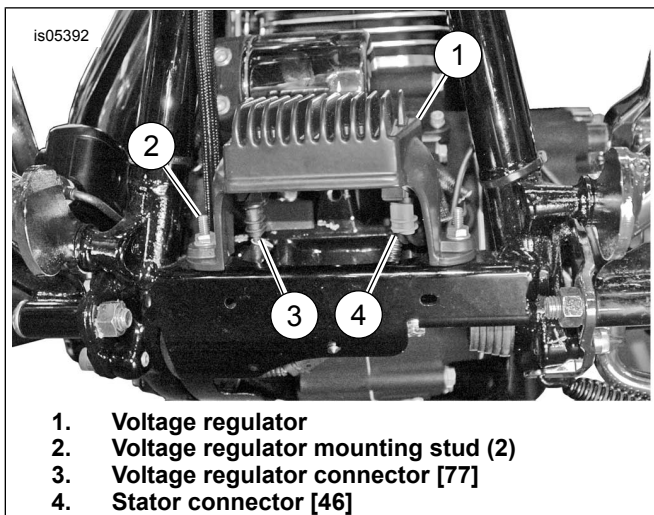
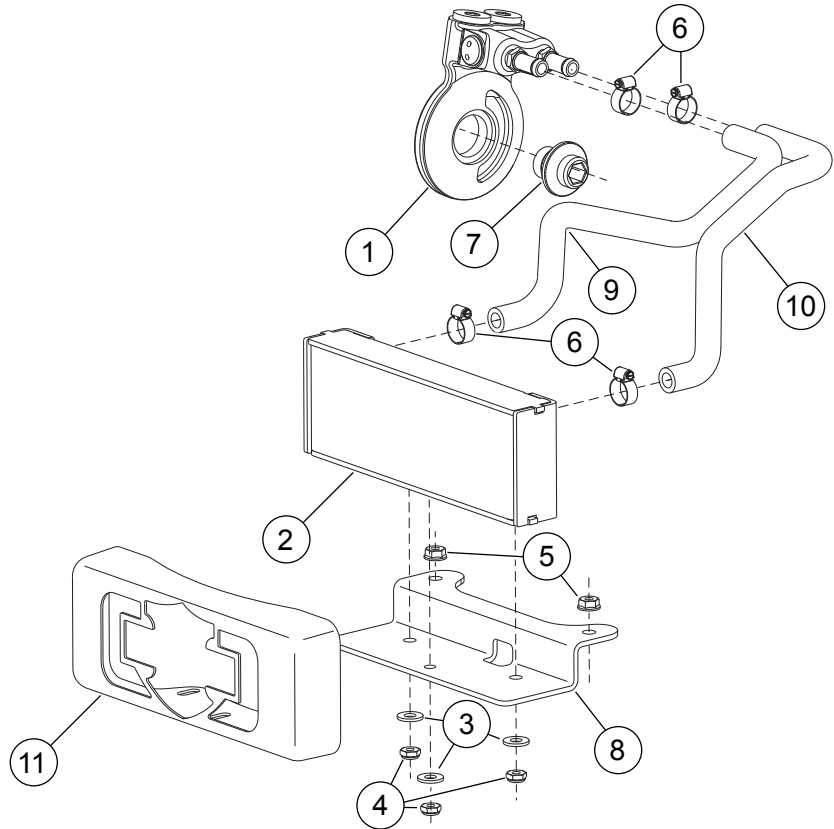

Figure 4. Voltage Regulator and Connectors
Figure 5. Service Parts for Touring Oil Cooler Kit with Chrome Oil Cooler Cover
See Figure 5 and Table 1.
4. See Figure 4. Release locking latches from connectors and disconnect the stator connector (4) and voltage regulator connector (3) from the voltage regulator (1).
6. Lift voltage regulator (1) to remove it from mounting studs (2).
7. See Figure 5. Install the oil cooler cover (11) over the oil cooler (2) studs, then install the mounting bracket (8) over the studs. Secure the bracket and cover to the oil cooler with the three washers (3) and three locknuts (4). Tighten the nuts to 10.8–13.5 N·m (96–120 in-lbs).
8. Install the oil cooler mounting bracket onto the regulator mounting studs. Place the wire mounting bracket on top of the oil cooler mounting bracket, then install the voltage regulator on the studs over the oil cooler bracket. Secure the regulator using two flange nuts (Item 5, Figure 5), but do not tighten at this time.
9. See Figure 4. Connect stator connector (4) and voltage regulator connector (3) to the voltage regulator (1). Secure connectors with latches.
11. See Figure 5. Slide two clamps onto the left hose (10) and the right hose (9) and connect the hoses onto the oil cooler (2) and oil cooler adapter (1).
12. Fasten hoses to oil filter adapter and oil cooler with worm drive clamps (6). Tighten clamps to 0.9 N·m (8 in-lbs).